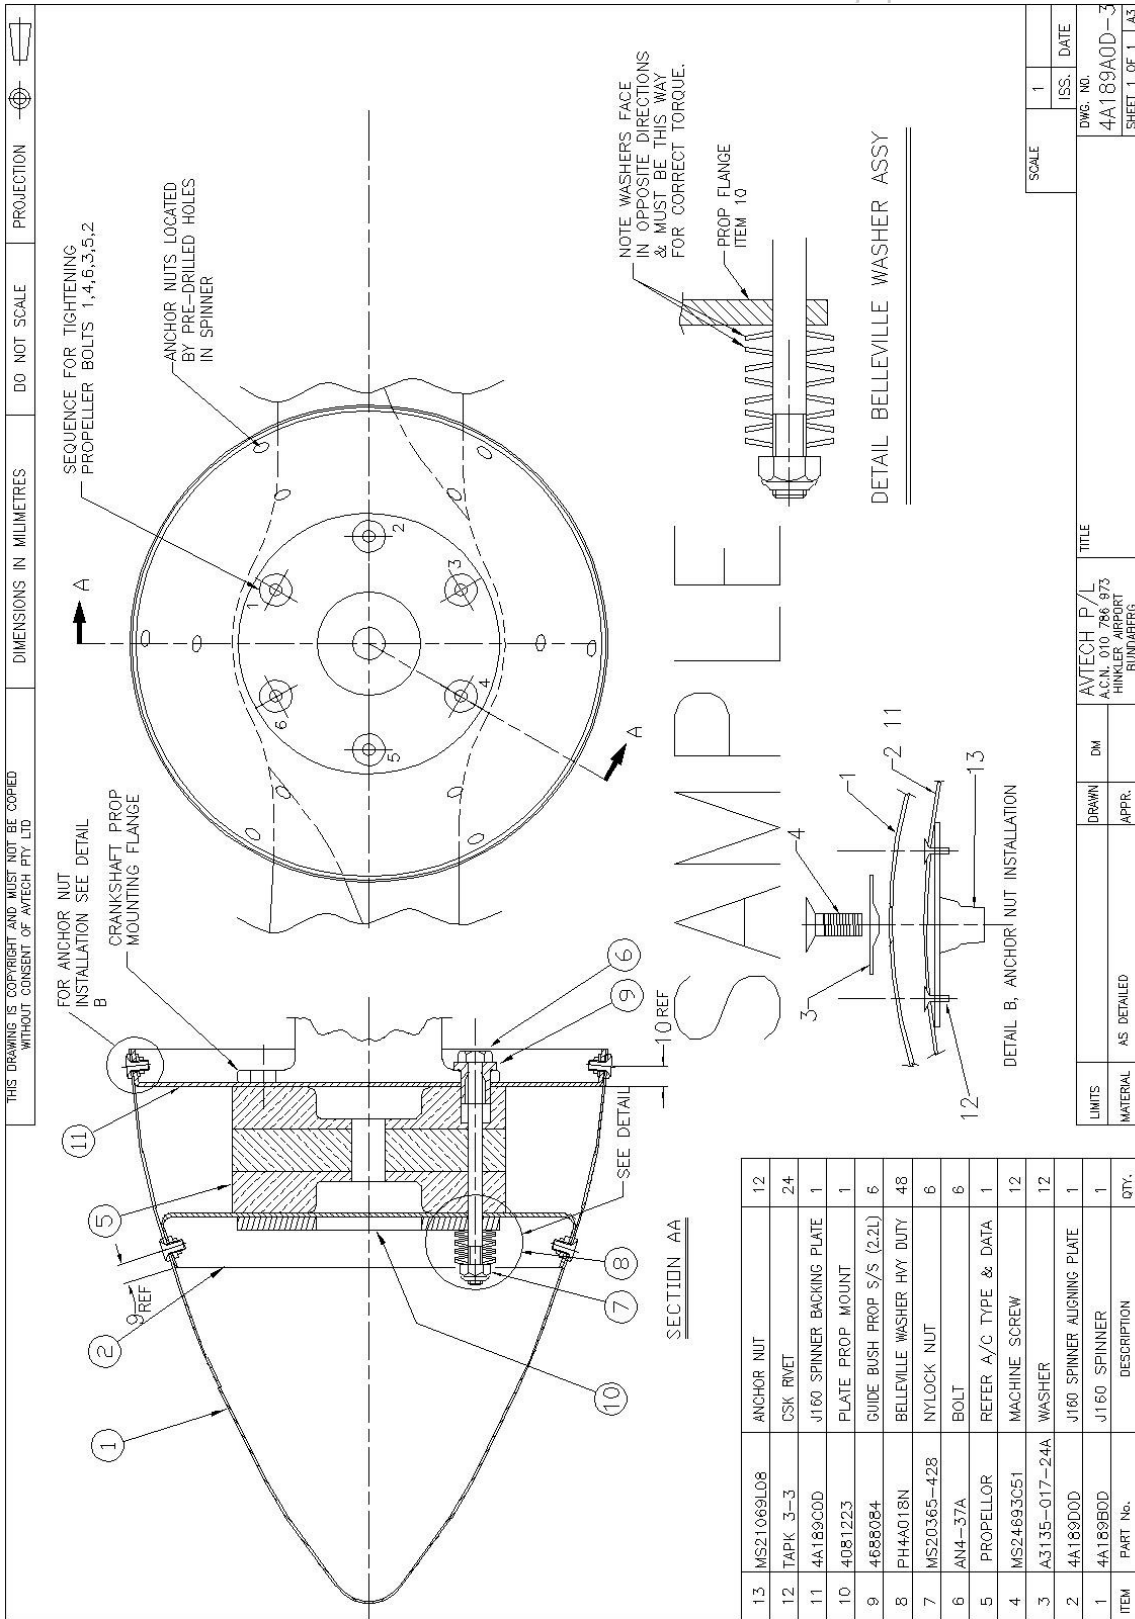

Figure 1 – Sample Propeller Installation Details
- v) Re-fit the propeller to the aircraft using the longer bolts and Belleville washer stack as shown generally in Figure 1 below (contact Jabiru Aircraft or our local representative for aircraft specific details). Note that the bolts must be oriented with the threaded end facing away from the engine. Details of the variations to the propeller installation for the different Jabiru models are available from Jabiru Aircraft or our local representative.